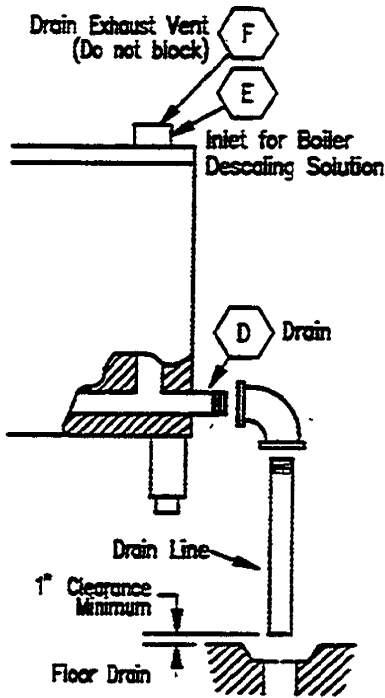

Figure 2-6. Recommended Drain Layout
Refer to Figure 2-6, and the dimension drawings (Figure 2-2). The drain outlet (D) discharges exhaust steam and hot condensate from the oven/steamer. The drain exhaust vent (E) and a 1-inch minimum clearance between the drain opening and floor drain provide the CombiCraft Oven/Steamer with free air venting.
Furnishing and installing the drain lines and fittings is the responsibility of the owner and/or installer. Figure 2-6 illustrates a drain layout recommended by Cleveland Range. Observe the following instructions to determine the pipe size, the number of fittings required, and the layout of the drain line.
6. Refer to Figure 2-6 and connect the drain line to the 1.5 inch drain pipe connection at the back of the CombiCraft (D).